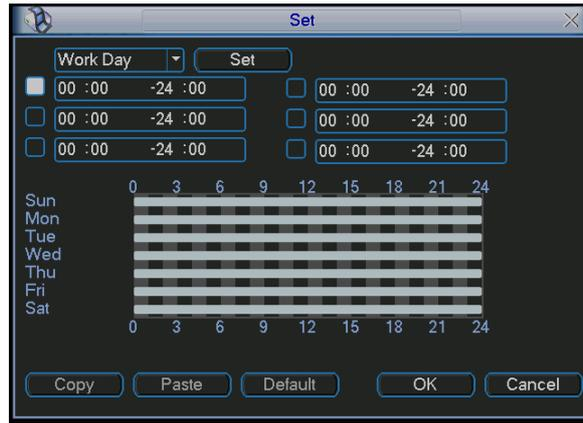
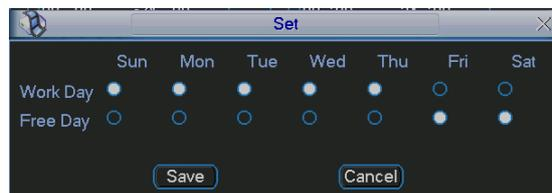

Figure 4-61
Figure 4-62
- Period: Click set button, you can see an interface is shown as in Figure 4-61. Here you can set for business day and non-business day. In Figure 4-61 click set button, you can see an interface is shown as in Figure 4-62. Here you can set your own setup for business day and non-business day.